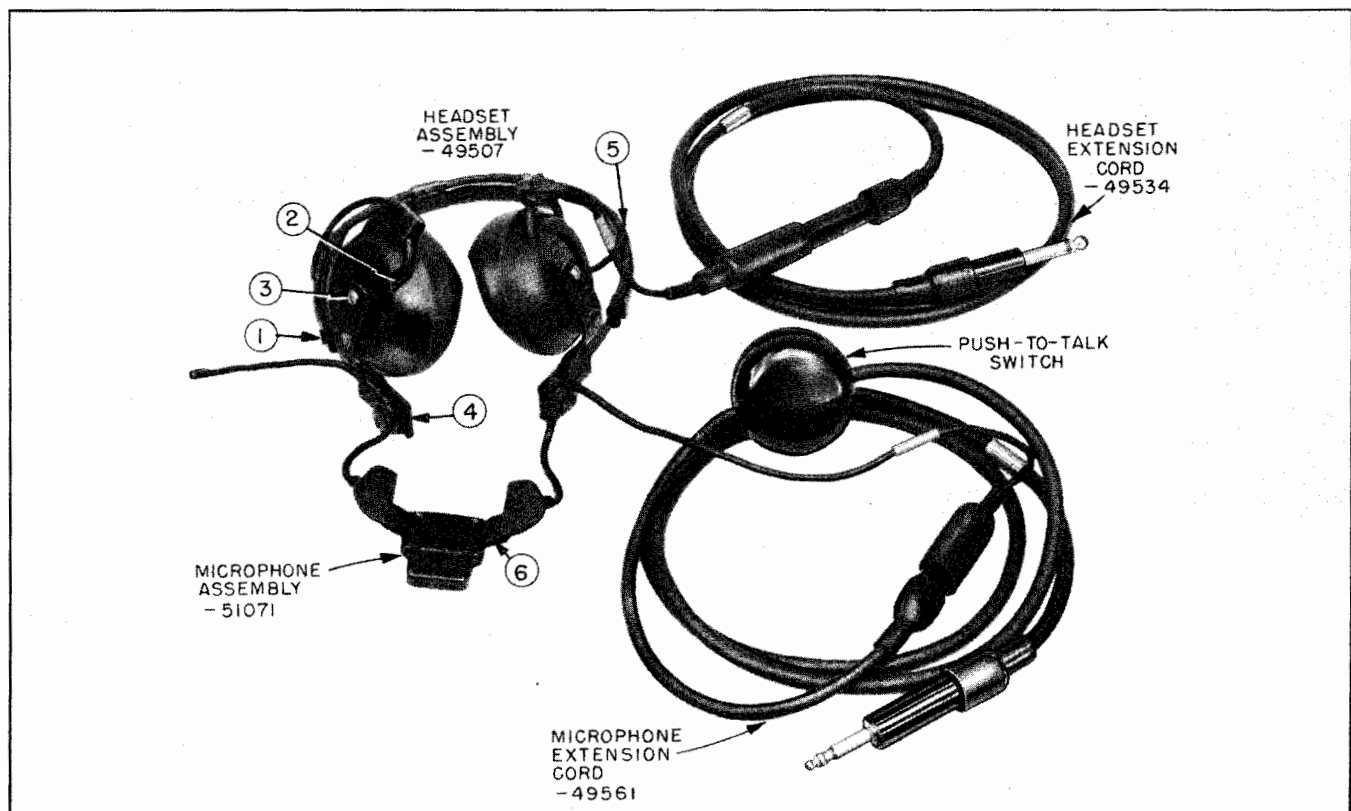

Figure 5-3.—Headset and Microphone Assemblies with Extension Cords.
The headphones may be removed from the headband and cord by pulling back the ear cushions so as to give access to the headphone terminal screws (item 2, figure 5-3). When the two terminal screws are loosened the cord tips may be withdrawn. Then by removing the screw and lockwasher (item 3, figure 5-3), the headphone and ear cushion are free from the headband. The headphone may now be removed from the ear cushion for replacement.
Cord and Headband Covering (Navy Type 49503A) is removed from the headband by taking out both screws and lockwashers (item 1, figure 5-3) and then withdrawing the sliding members (item 4, figure 5-3) and stripping the cord and headband covering assembly from the metal headband (item 5, figure 5-3). The metal headband may now be inserted in a new cord and covering assembly. Reassemble in reverse order, the screws (item 1, figure 5-3) being threaded into the loose sleeve.
When replacing either the microphone or the face harness assembly, make sure that the contact surfaces on the back of the unit and the contact springs in the bracket of the face harness assembly (item 6, figure 5-3) are free from foreign material. The protective wax-like coating normally present on the contact springs and terminals provides moisture protection and should not be wiped off.